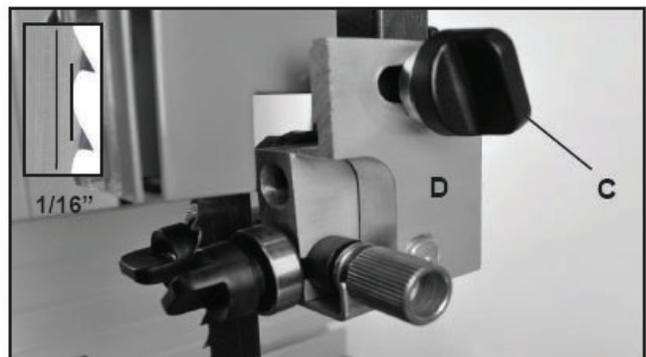

FIGURE 23
2. The front of the guides should be approximately 1/16" behind the gullets of the saw blade (Fig. 23, inset). If they need to be moved forward or backwards, loosen the Locking Knob (C, Fig. 23) and move the upper guide's Support Block (D) until the guides are properly positioned behind the blade gullets. Re-tighten the Locking Knob when done.
1. Loosen the lower support Locking Handle (A, Fig 25). Next, move the blade Guide Block (B, Fig 25) with the micro-adjusting Knob (C, Fig 25) until both side bearing guides are approximately 1/16" behind the gullets of the bandsaw blade. See Fig. 23, inset. When set, tighten the Locking Handle (A).